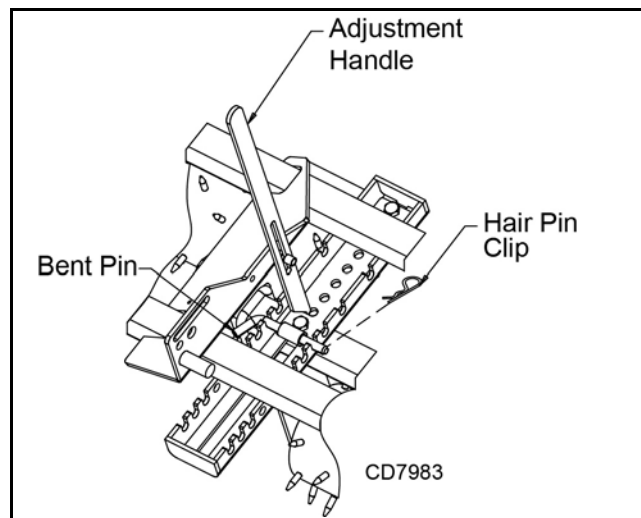

Figure 15. Spike Roller Handle Adjustment (mast plate hidden for picture clarity)
7. Raise the adjustment handle and pivot it to the next adjustment hole (see Figure 15). Move handle rearward; front rollers will start to angle forward. Continue this process until front rollers have the desired angle and holes align between frame rail and roller side weldment.
7. Raise the adjustment handle and pivot it to the next adjustment role (see Figure 15). Move handle forward; front discs will start to angle rearward. Continue this process until front discs have the desired angle and holes align between from rail and disc slide weldment.